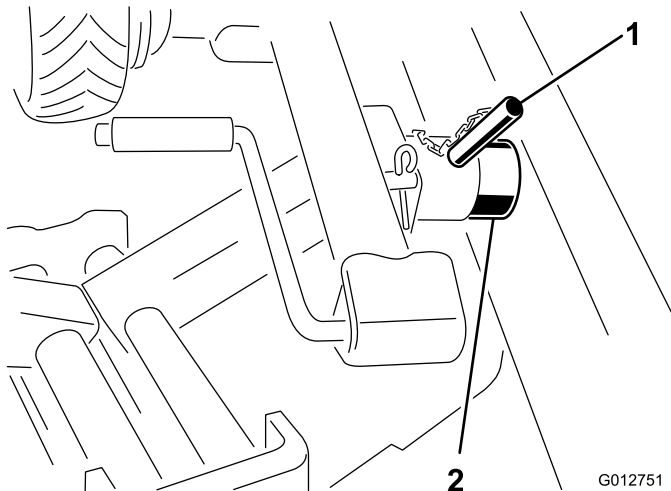

Figure 3
1. Remove jack from storage position by removing pin and sliding jack off storage tube (Figure 3).